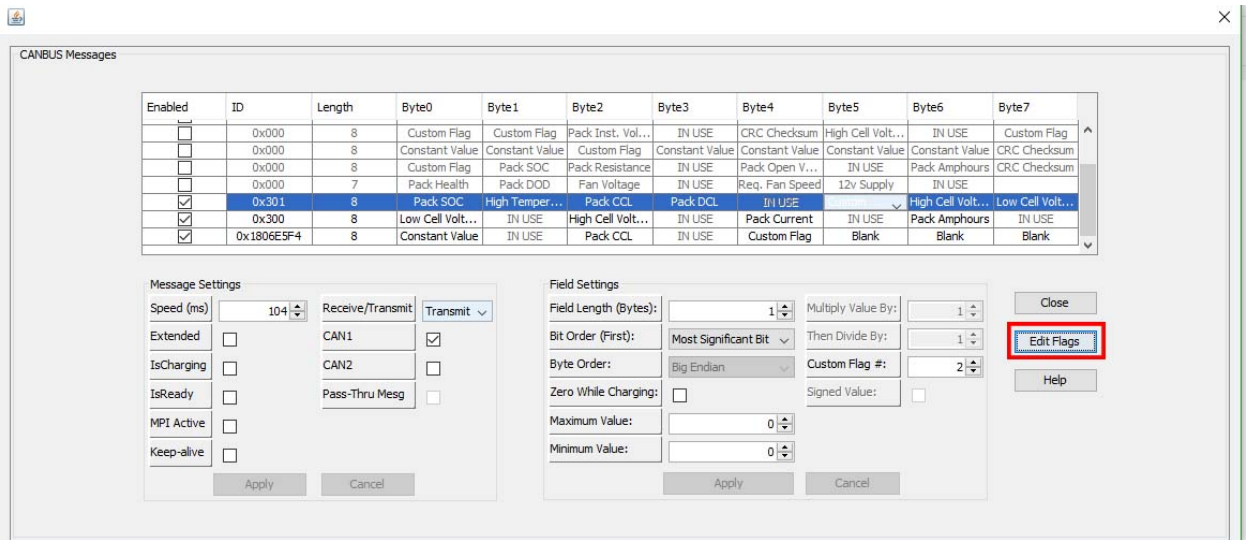

Fig. 32
15. To open the “Custom Flags” dialog box, select the “Edit Flags” button as shown in Fig. 32.